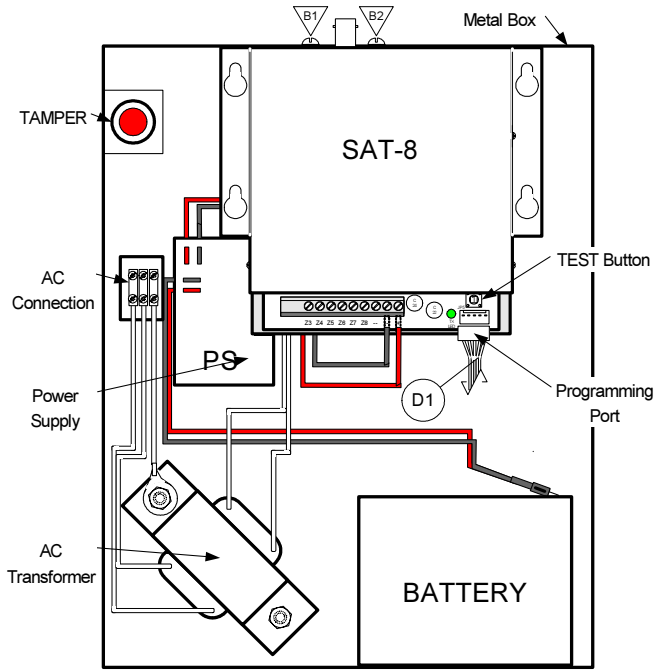

Figure 4 - TD-800
- 1 Open the TD-800 box and locate the SAT-8 (see Figure 4)
- 4 Remove the two screws (B1 & B2) holding the SAT-8 in the box and gently remove the SAT-8 (see Figure 4)